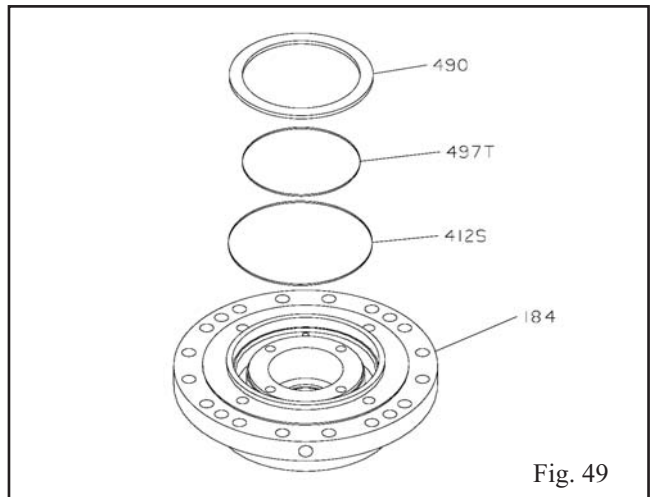

Fig. 49
1. Install outer and inner water jacket cover O-rings (412S and 497T, respectively) into grooves in water jacket cover (490) (Fig. 49).